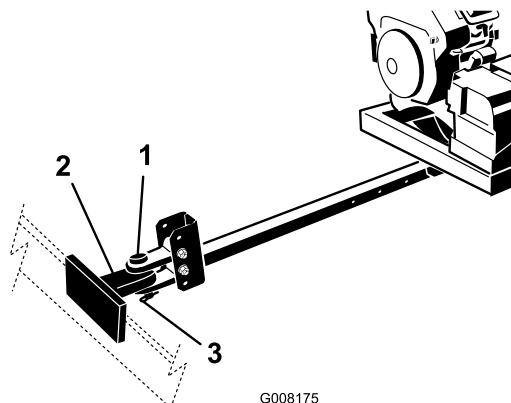

Figure 8
4. Connect the blower clevis hitch to the tow vehicle hitch with the hitch pin and clevis (Figure 8).